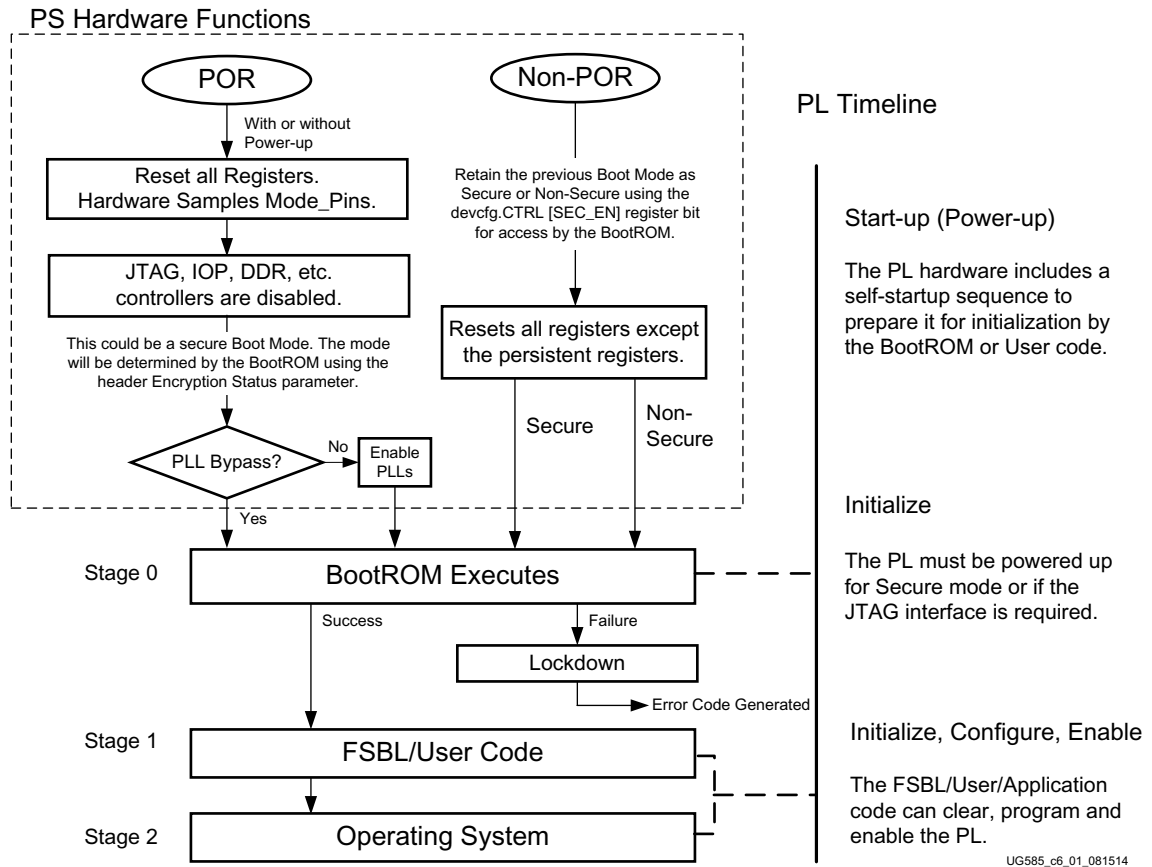

Figure 6-1: PS/PL Boot Process for Hardware and Software
- Figure 6-1
The first software to run is the BootROM code, then the FSBL/User code and system code. All of these steps are shown in Figure 6-1.
These steps and their subcomponents are illustrated in Figure 6-1, page 150.